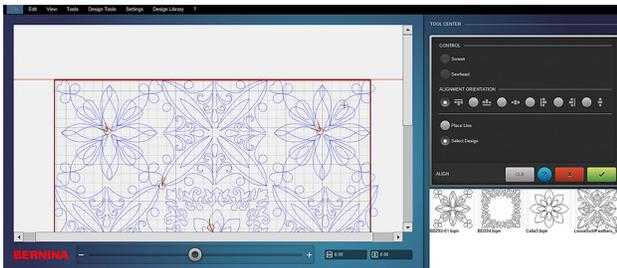

Fig. 77
3. After the line is placed, tap the Select Design function. Touch each design in the first row and they will snap to the top of the grid (Fig. 77). Confirm with the green checkmark.